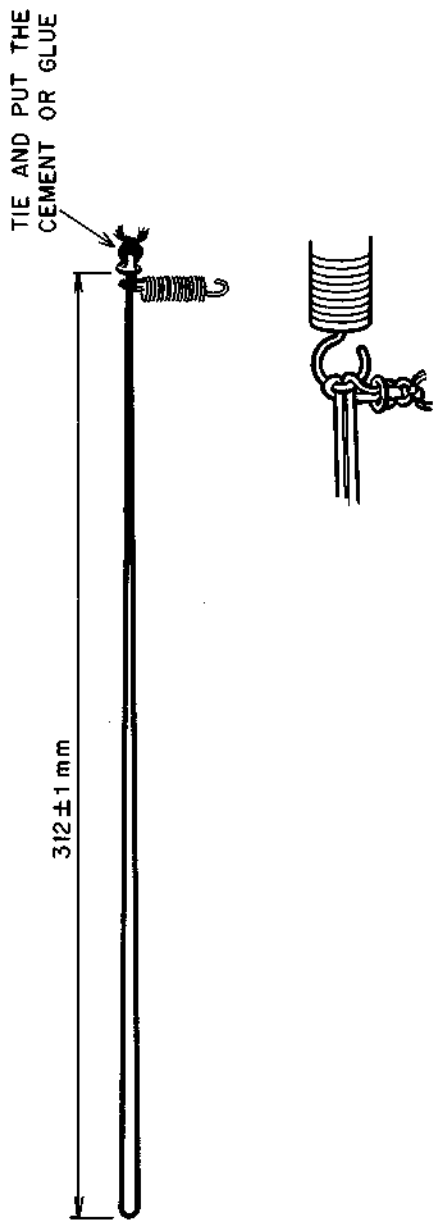

Fig. 7-1.
1. Build a Dial Cord as shown in Fig. 7-1.